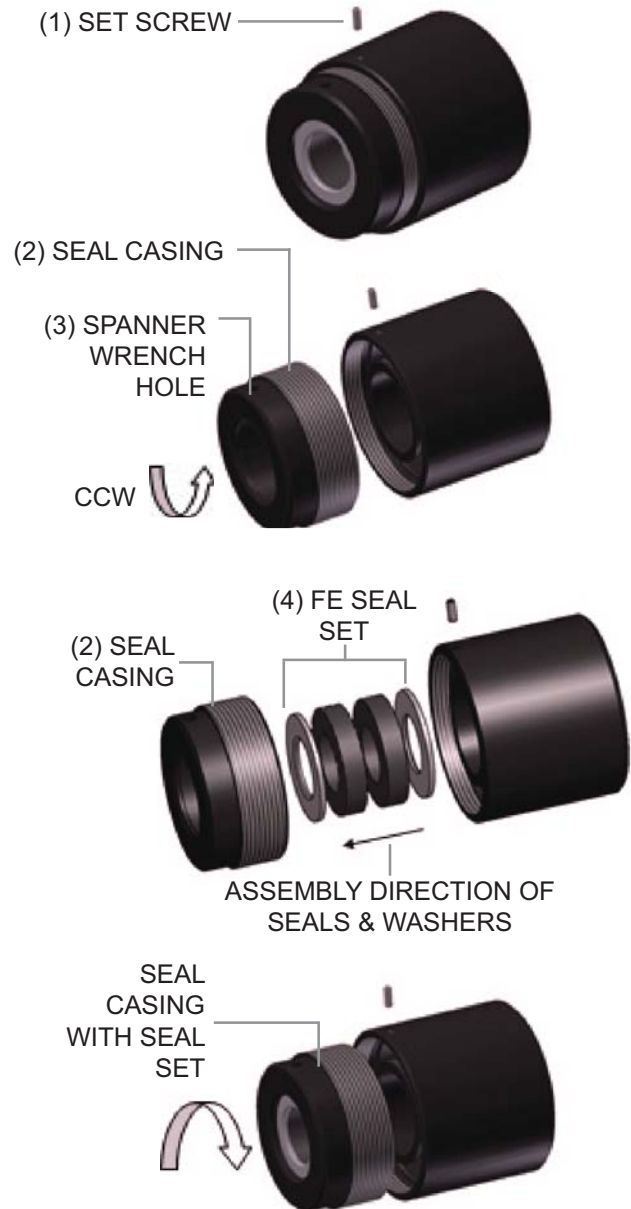

Figure 3. Installation of Seals
3. Seal set contains elastomer seals and washers. Verify that seals and washers are the same size. Assemble seal set (4) into seal casing (2) per Figure 3.
4. Reassemble and tighten seal casing (2) with seal set (4) to housing.
5. Retighten set screw (1).